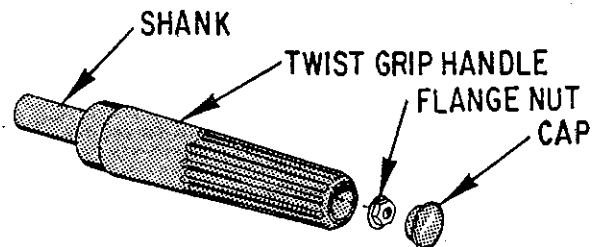

Figure 13. View of twist grip throttle.
- A. If twist grip handle becomes too stiff; pry off cap and remove self-locking nut (see Figure 13), then remove handle. On models prior to 1977, apply grease to the "O" ring and on 1977 and later models apply grease to the shank of the handle using a good all-purpose grease. Reverse the steps to assemble, using the nut to adjust tension on the handle.